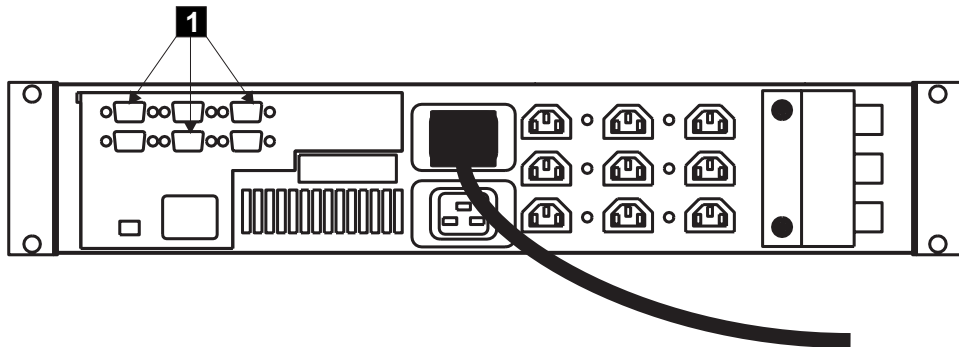

Figure 156. Connecting the 2145 UPS signal cables
4. At the back of the 2145 UPS, connect the signal cables. See **1** in Figure 156.